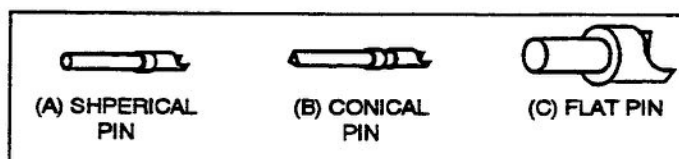

Figure 3-19. Three common types of pin contacts.
Contact pins. Figure 3-19 shows three types of pin contacts commonly in use. These contacts are identified by the shape of the end of the contact. The spherical type (A) is the most common, being used in most standard-sized connectors. The conical pin (B) is used primarily in miniature connectors. The flat pin (C) is used where the contact must carry very large currents.